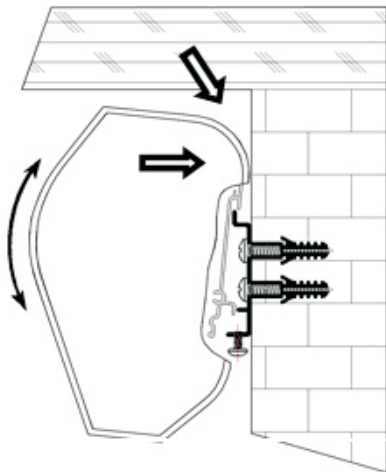

Fig.4
3. Attach the screen casing on the wall as Fig 4.